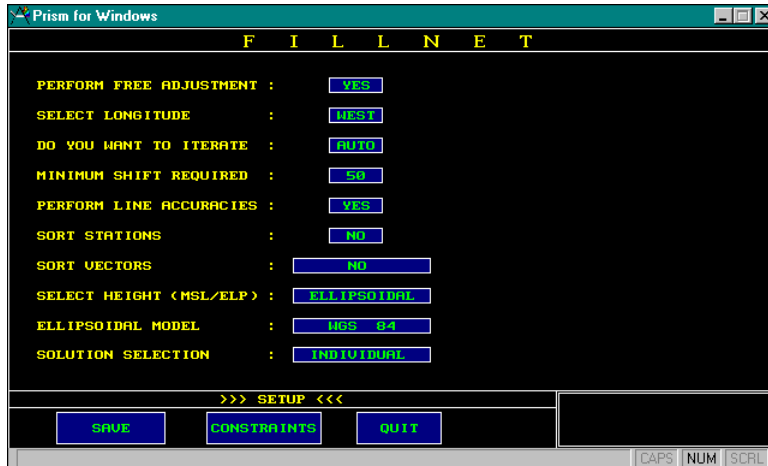

Figure 3.7: Setup Menu Screen
14. Click on **SETUP**. The **SETUP** menu, Figure 3.7, will appear.